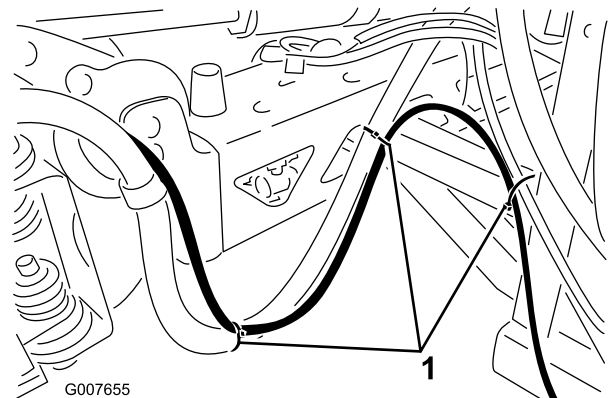

Figure 9
- C. Continue to route the hose along the exiting boom supply hose. Use plastic ties to secure the hose to the brace at the positions shown in Figure 9.